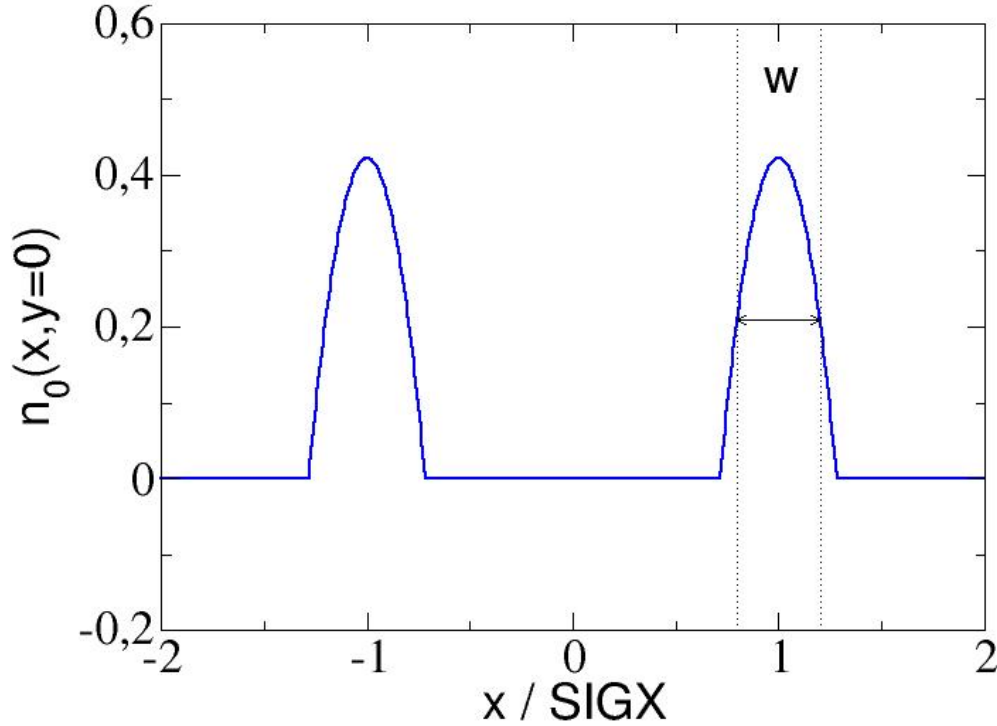

Figure 10.3: Hollow parabolic shape of radial density for beam-beam lens.
- BBSHAPE=3: hollow-parabolic shape (see fig.10.3). SIGX, SIGY are the distances from the centre to the maximum of the parabolic density profile in horizontal and vertical directions.